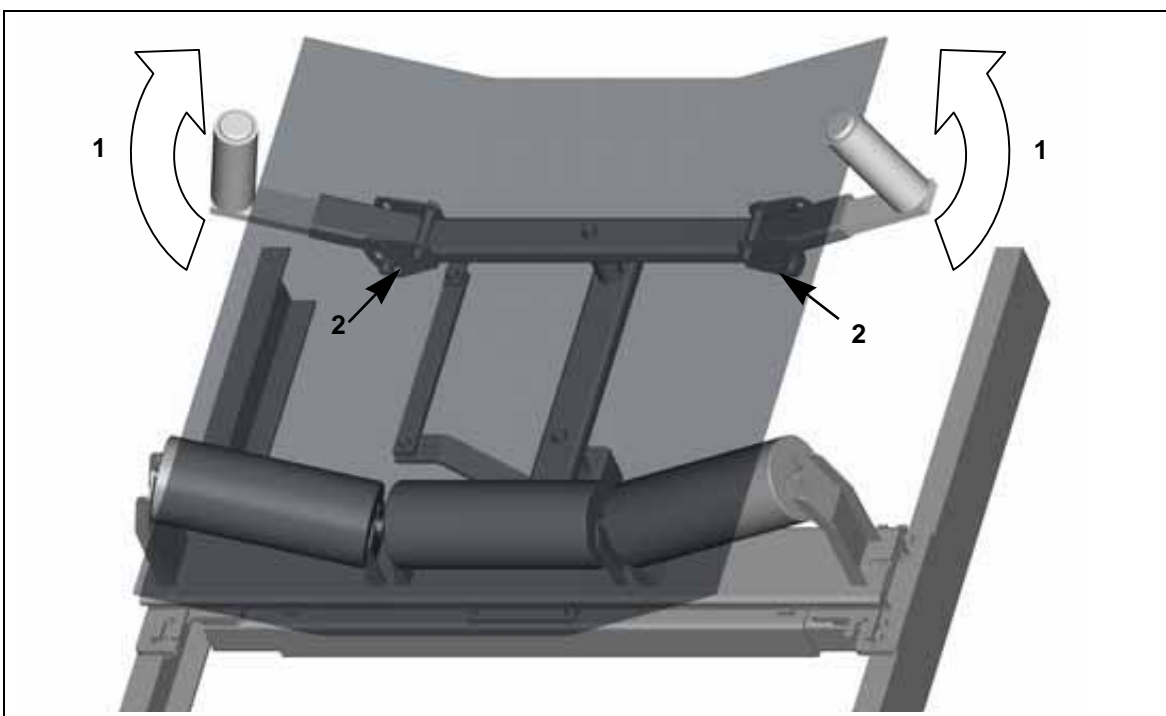

Fig. 24: Positioning the sensor roller unit
13. Adjust the sensor roller unit (1, Fig. 24) in such a manner that it is perpendicular to the conveyor belt and fix it with the arresting screws (2, Fig. 24).